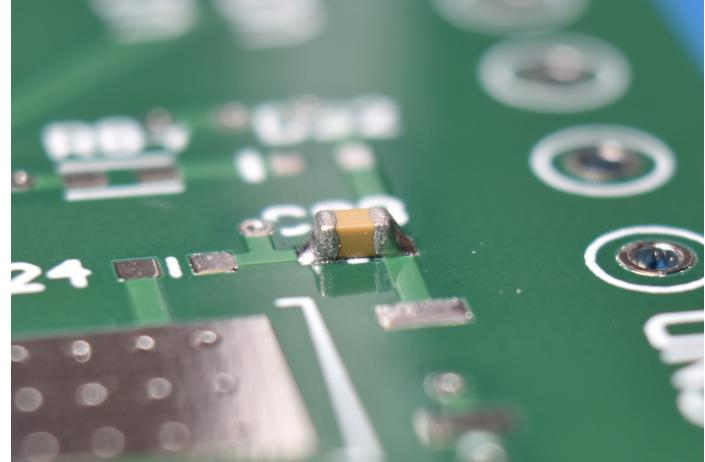

Figure 4: Soldered surface mount capacitor.
8. Visually inspect the solder joints. Your solder joints should look similar to the example shown in Fig. 4. Check around the component for small solder balls and remove them with tweezers; solder balls risk shorting exposed pins and traces.